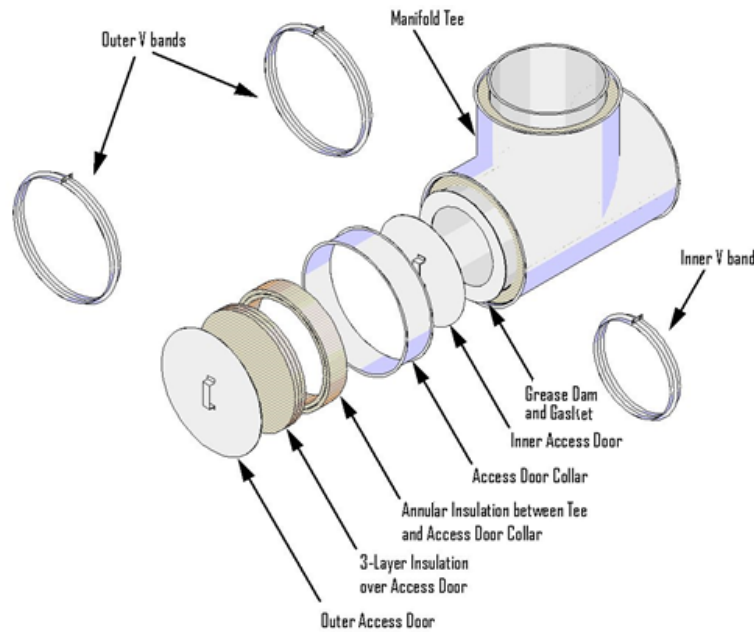

Figure 2. Access Door Assembly
- B. ACCESS DOOR – When required, use the duct manufacturer's manifold tee and access door (tee cap) assembly (see Figure 2). Apply a 1/4 in. continuous bead of sealant (Item 2A) to the inner flange of the tee on the side where access door is to be located. Center the supplied grease dam over the opening of the tee. Verify that the grease dam is sealed to